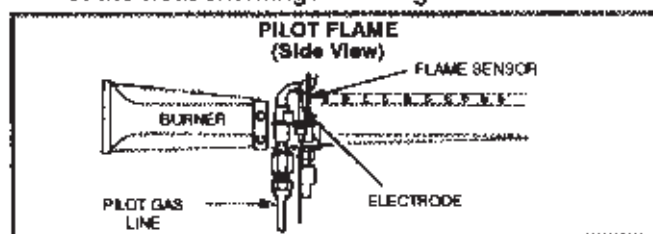

FIGURE 7
- 1- *Pilot Flame* -- Pilot flame must surround the end of flame sensor for proper operation of pilot safety circuit. See figure 7.